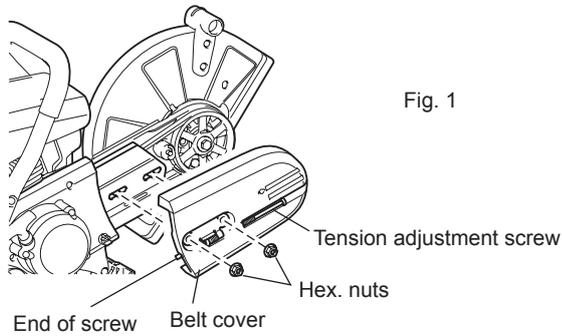

Fig. 1
- Loosen tightening nut, and turn tension adjustment screw to the left until the end of the screw is visible. (Fig. 1)
- Remove tightening nuts and remove belt cover. (Fig. 1)